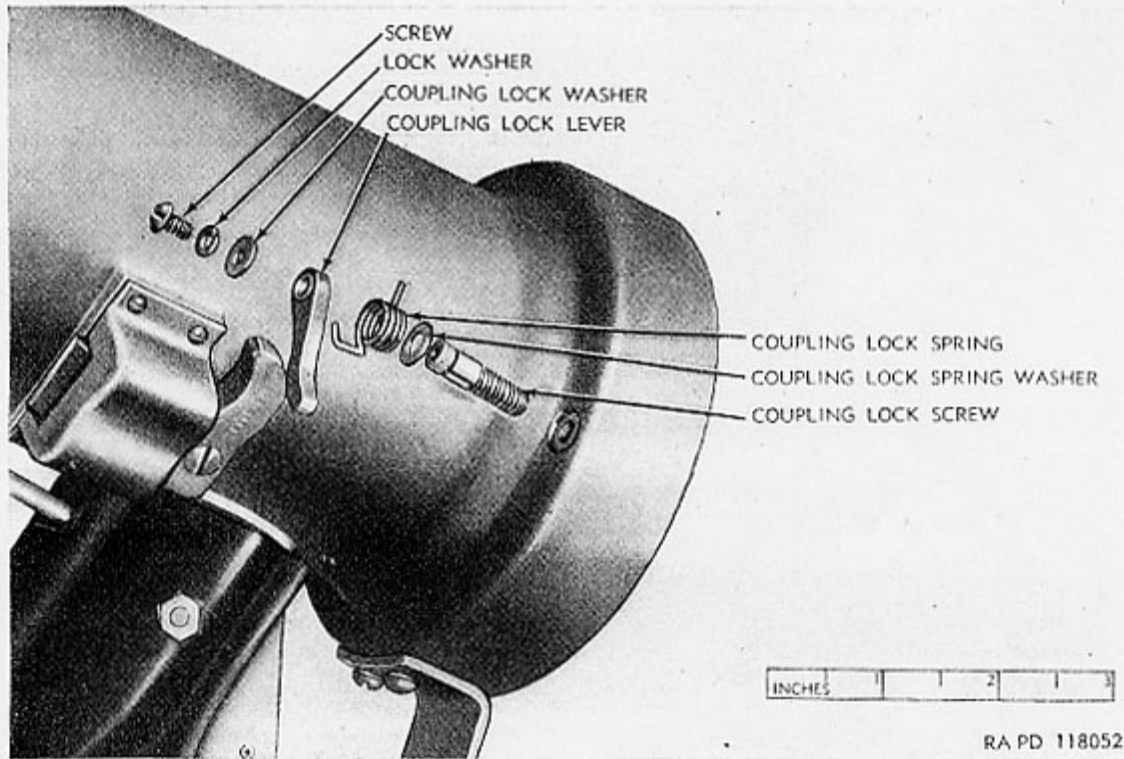

Figure 25. Barrel coupling lock parts exploded.
(1) To remove the bipod slide block catch, remove the cotter pin and withdraw the catch pin. Care must be exercised to keep the catch spring from flying out.
(2) To install the bipod slide block catch, place the catch spring in the catch so that the long arm of the spring fits in the slot of the catch at the lever end. Place the catch (with spring) in position on the slide block so that the holes aline. Replace the catch pin and secure with the cotter pin.
f. **BARREL COUPLING LOCK** (fig. 25).
(1) To remove the barrel coupling lock lever and screw, proceed as follows: